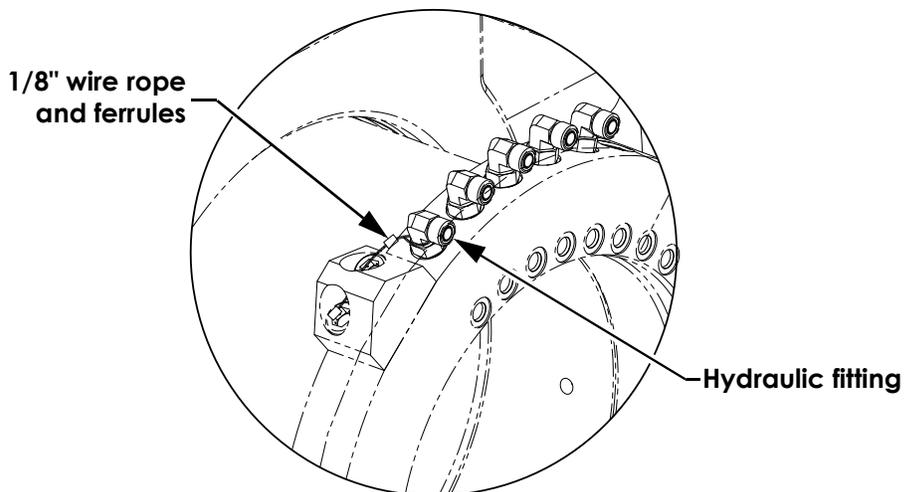

Figure 4: Pressure Pad Securement
- To secure the pressure pad, use 1/8" wire rope and ferrules. Run a wire rope through hole in pressure pad and tie-off to the hydraulic fitting. Keep the slack as minimum as possible (no more than one inch). Refer to Figure 4.